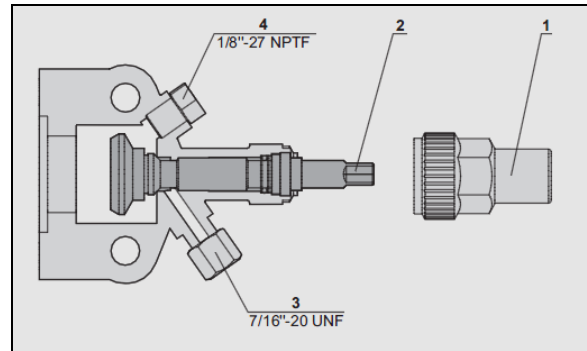

FIGURE 77: COMPRESSOR SHUT-OFF VALVE BACKSEATED POSITION (NORMAL OPERATING POSITION)
4. Backseat the compressor suction shut-off valve (FIGURE 77).
13. Shut down engine and backseat suction and discharge shut-off valves (FIGURE 77).
2. Backseat (stem out) the two compressor shut-off valves (FIGURE 77).
3. Install A/C pressure gauges at the compressor shut-off valves service ports (item 4, FIGURE 77).